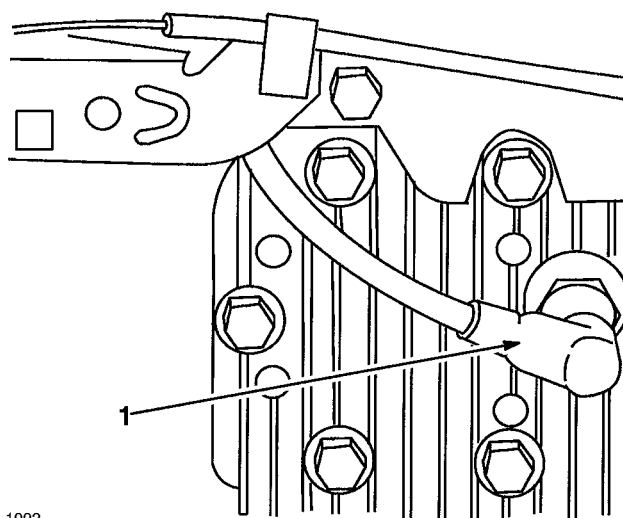

Figure 19
1. Pull wire off spark plug (Fig. 19). Remove spark plug and clean with a wire brush, removing carbon build-up. **DO NOT SAND-BLAST.** Check condition of plug for cracks and damaged or worn electrodes. Replace if necessary.
3. Install spark plug by hand, then torque to 180 in.-lbs. (15 ft.-lbs.) (20 N·m) (Fig. 19).
1. Disconnect spark plug wire (Fig. 19).
5. Reconnect spark plug wire when maintenance is completed (Fig. 19).